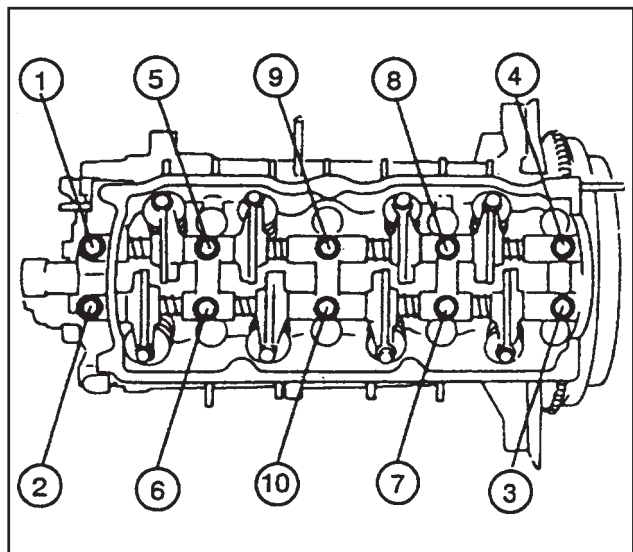

FIGURE 3. SEQUENCE FOR REMOVAL OF THE
14. Loosen the capscrews for the rocker shaft supports in steps. See FIGURE 3. Remove the rocker shaft assembly and the camshaft.